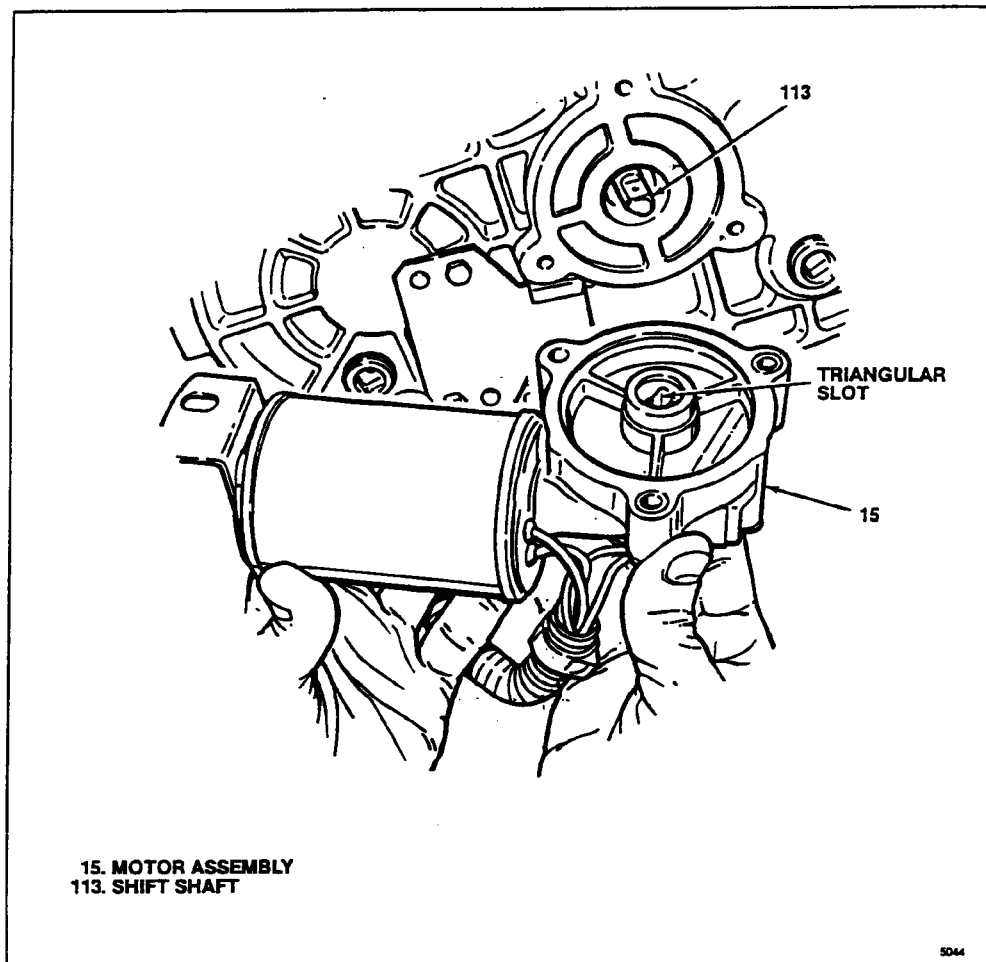

Figure 5-24. Motor Assembly Alignment
- a. Install sleeve bearing (17) and oil seal (16) in cover (26) around shift shaft (113) (see figure 5-24).
- b. Position motor assembly (15) so that triangular slot in motor will align with shift shaft (113) (see figure 5-24). Move motor in to engage shift shaft and contact cover (26). Then rotate motor in clockwise direction until motor is in correct position (see figure 5-22) and mounting holes are aligned. Install three bolts (9) hand tight with bracket (10) under head of bolt closest to opening for speed sensor (13).
- c. Fit o-ring (14) on speed sensor (13) and install in cover. Rotate bracket (10) so that it is over speed sensor and torque all bolts (9) to 6-8 lb-ft (8-11 Nm).
- d. Install bolt (7) and washer (8) at bracket end of motor assembly (15) and torque to 6-8 lb-ft (8-11 Nm).
- e. Attach bracket (12) with two bolts (11) and torque to 5-7 lb-ft (6.8-9.5 Nm).